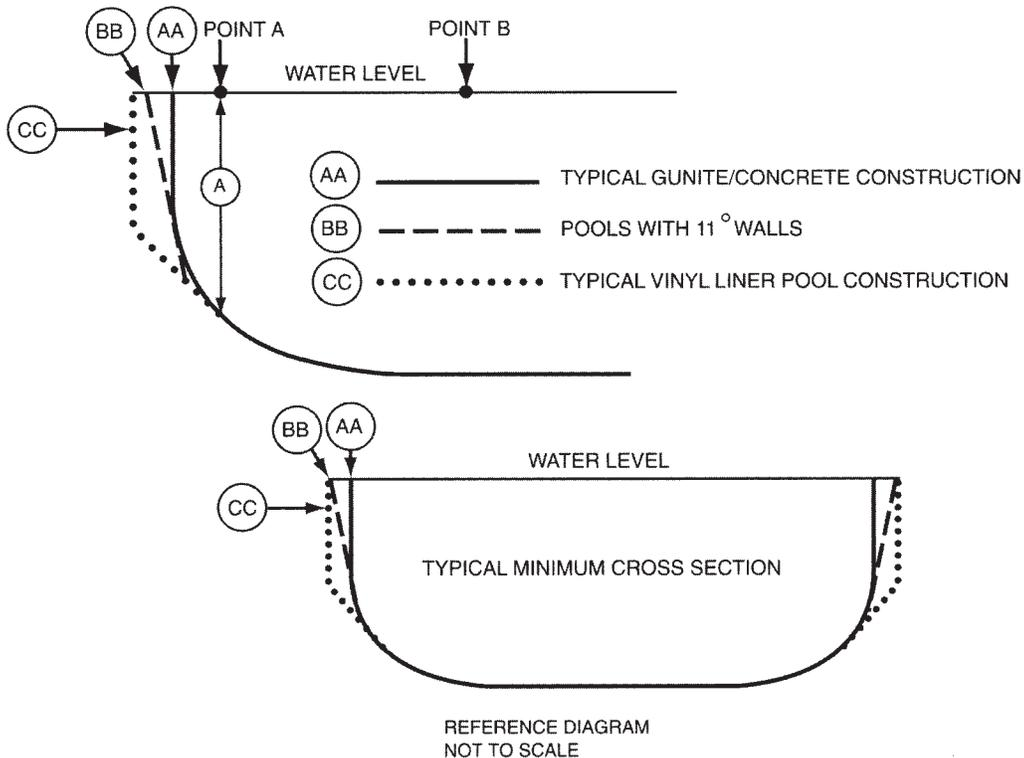

Figure 2 – Typical pool design configurations
**5.3.2** As shown in figure 2, at the depths of (a) and (b), the walls are permitted to join the floor.
**5.9.4 Typical pool design configurations.** Vinyl liner, shotcrete, fiberglass and concrete constructions shall conform to, but are not limited to, the typical pool configurations shown in figure 2.